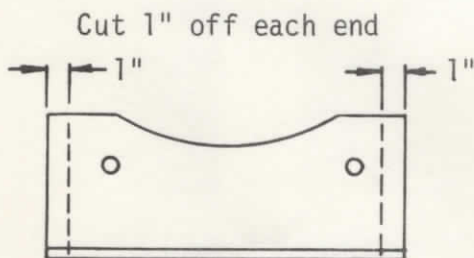

Fig. 1
- 1) Dragshields on 1979 and earlier 21" models must be modified as per Fig. 1, or replaced with new dragshield(s) P/N 032-111 (front) and P/N 032-112 (rear), purchased separately.